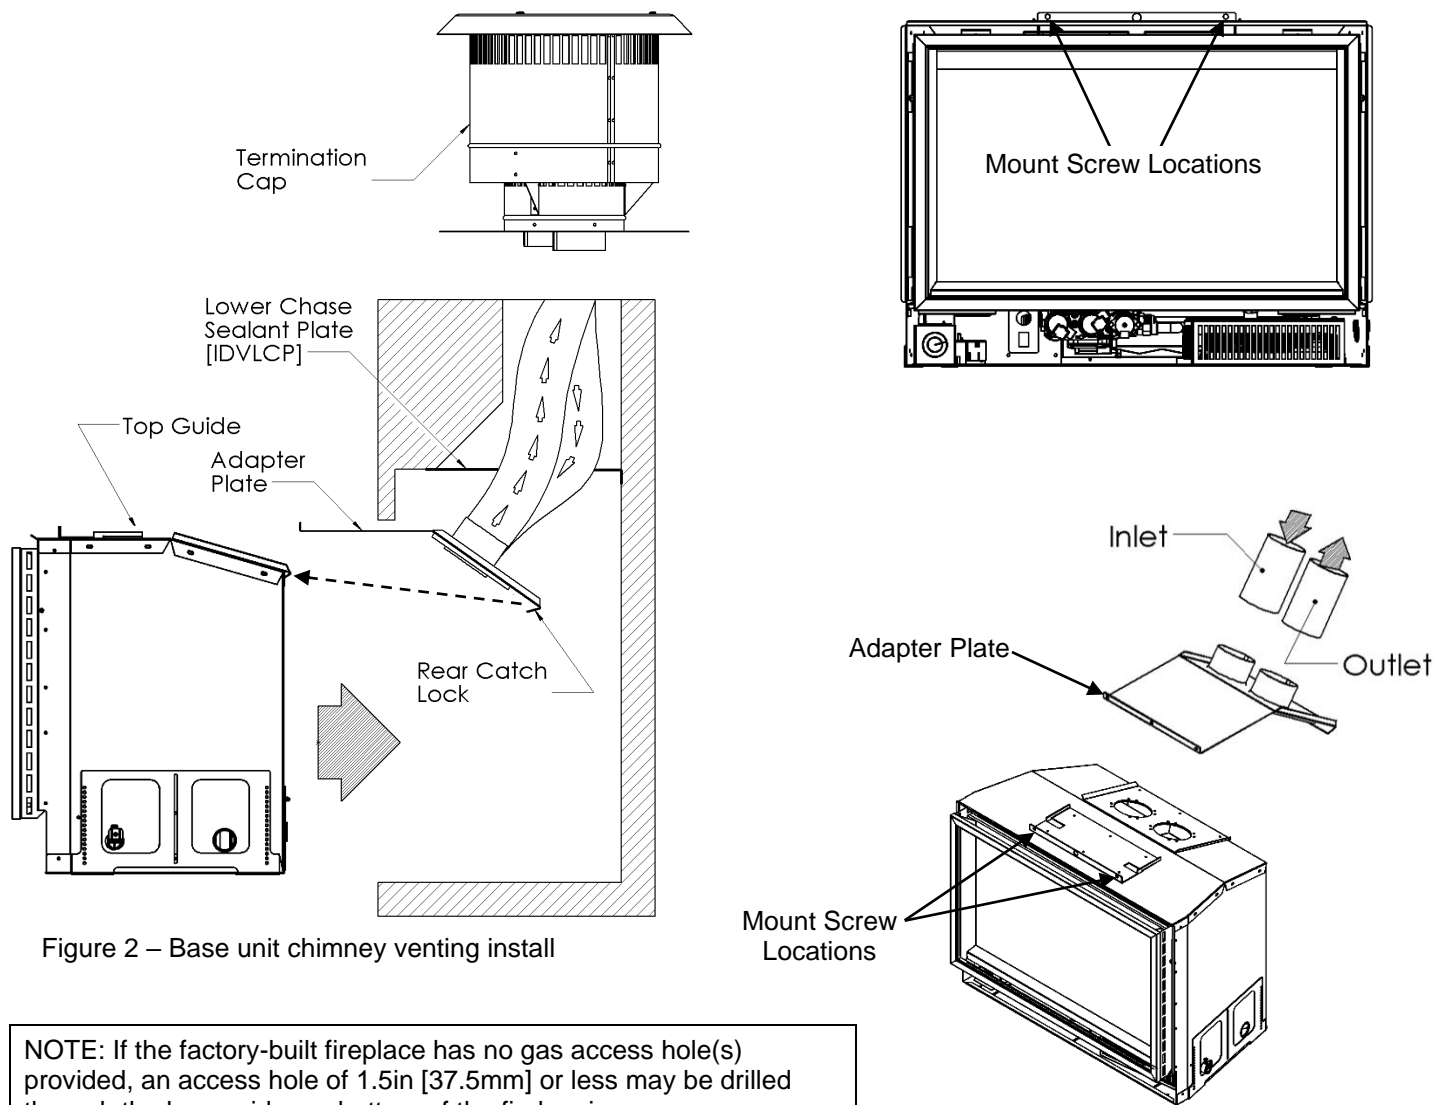

Figure 2 – Base unit chimney venting install
3. Slide the unit into place carefully. Ensure that the adapter slides along the top of the unit, in between the guides, and check that it remains flat. (Fig. 2)
4. Once the unit is slid back into position use the two screws previously removed to secure the adapter plate. When tightening the adapter plate check to make sure the plate is flat to the unit and the rear catch lock is engaged over the rear tab of unit. (Fig. 2 & 3)